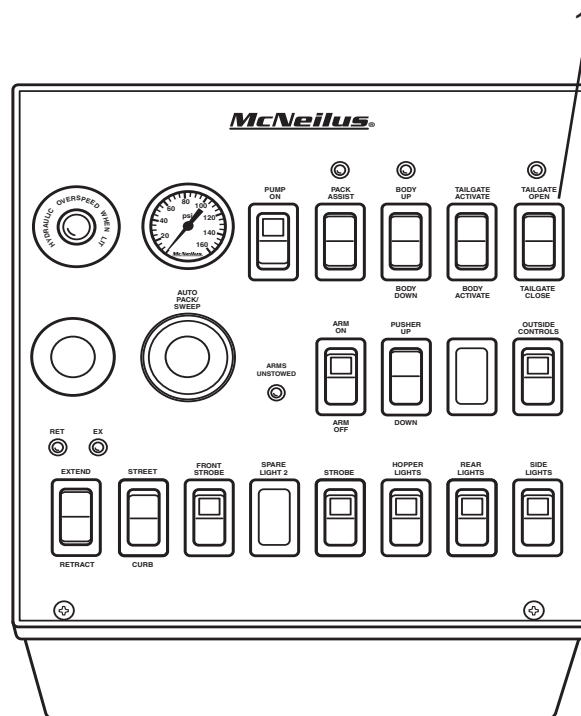

Figure 25
- Using the in-cab rocker switch, open the tailgate as needed to provide the necessary clearance to disengage the props (Figure 25, Item 1).